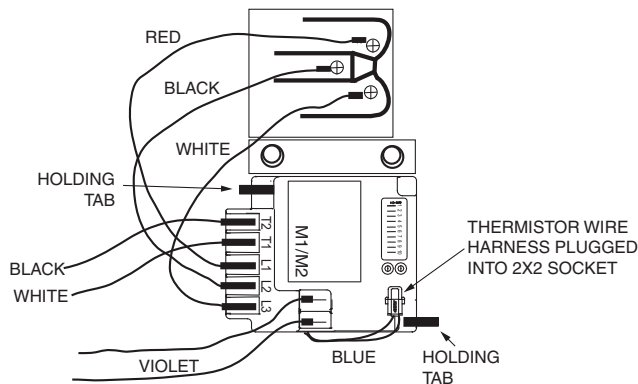

Fig. 74 — CoreSense Communication Module Mounting
3. Install the CoreSense module in the compressor terminal box as shown in Fig. 74, with the tabs holding the module in place. Route the thermistor wire harness as shown and plug the harness into the 2x2 socket on the CoreSense module.